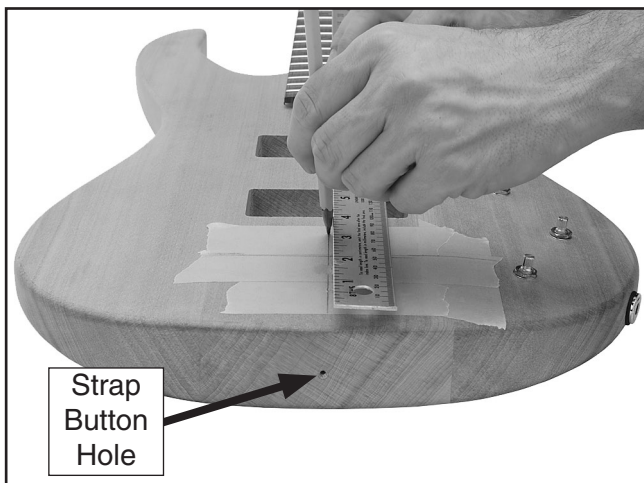

Figure 13. Marking center line.
1. Place a 36" long straightedge over the center of the fretboard inlays and over the body, so it aligns with the strap button hole, then mark the center line on the guitar body (**Figure 13**).